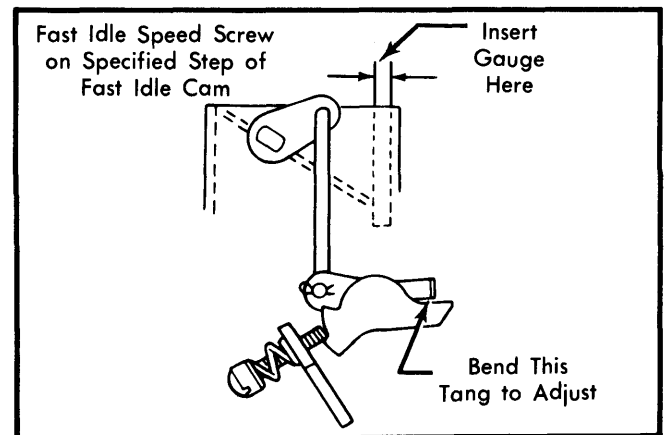

Fig. 3 Adjusting Fast Idle Cam
1) Position fast idle speed screw on specified step of fast idle cam against shoulder of next highest step. See Fig. 3.